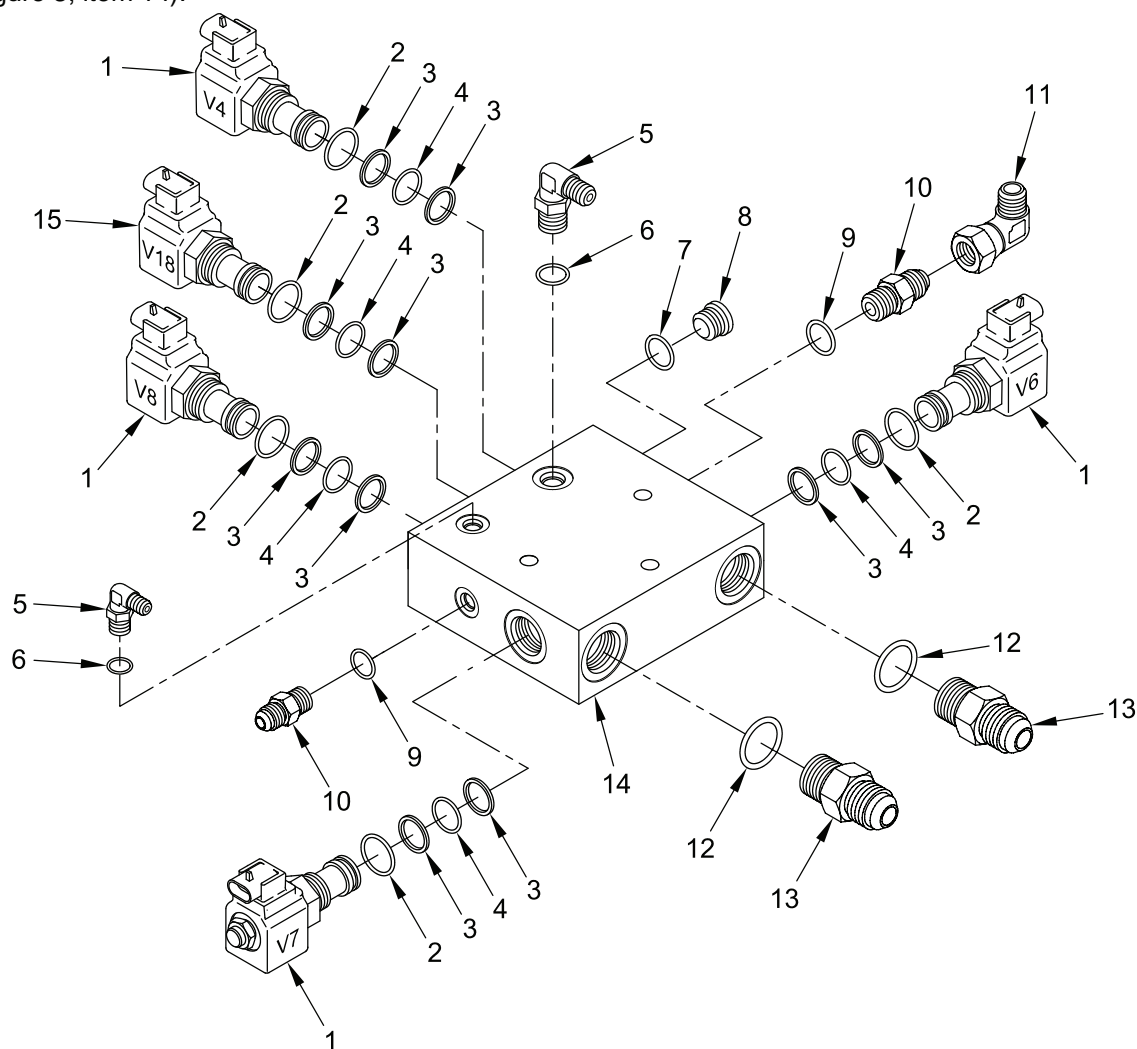

Figure 3. Assembly of HDC Aft Manifold
1. Install five new o-rings (Figure 3, item 2), five new teflon backups (Figure 3, item 3), five new o-rings (Figure 3, item 4), five new teflon backups (Figure 3, item 3), one two-way (NC) valve V18, (Figure 3, item 15), and four two-way (NO) valves V4, V6, V7, and V8 (Figure 3, item 1) into aft manifold (Figure 3, item 14).
2. Install two new o-rings (Figure 3, item 6), two adapters (Figure 3, item 5), new o-ring (Figure 3, item 7), plug (Figure 3, item 8), two new o-rings (Figure 3, item 12), two adapters (Figure 3, item 13), two new o-rings (Figure 3, item 9), two adapters (Figure 3, item 10), and adapter (Figure 3, item 11) into aft manifold (Figure 3, item 14).